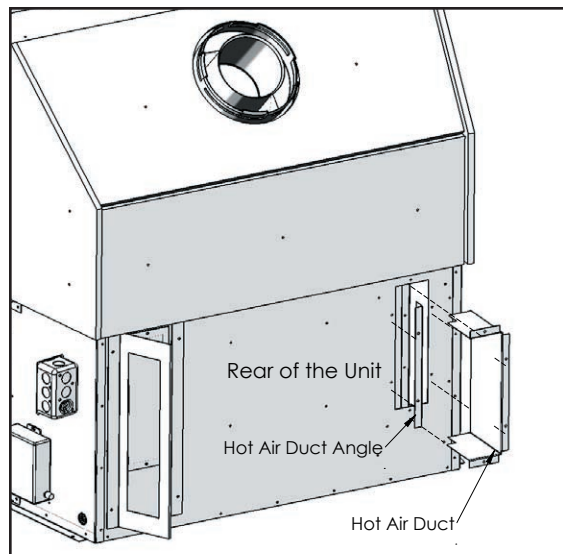

Figure 3: Install the hot air ducts.
2. Insert the hot air duct and the hot air duct angle into the cut out (refer to Figure 3). Secure the ducts to the back of the fireplace through the pre-drilled holes with hex head screws.